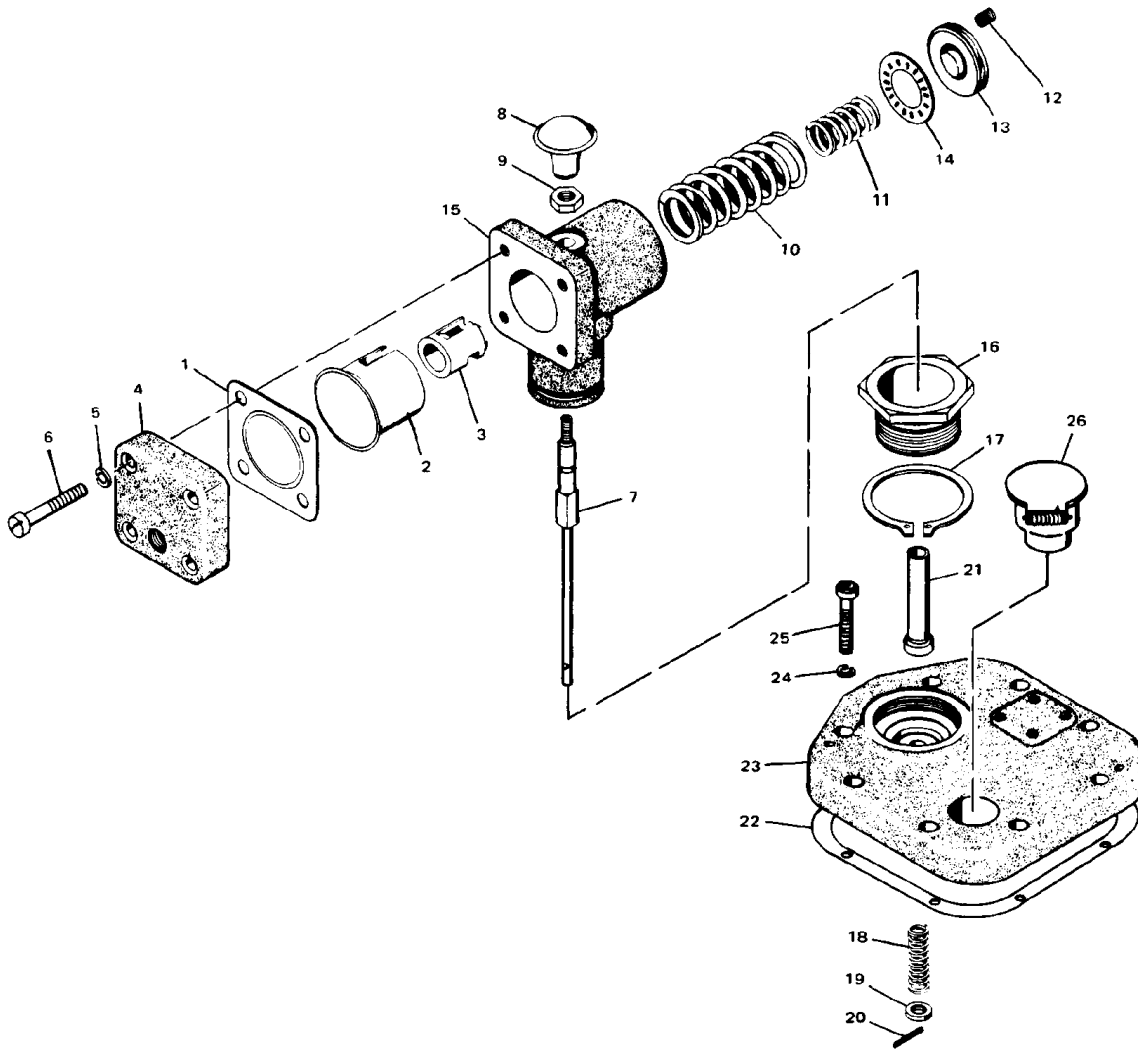

Figure 1. Exploded View of 12 to 26 psi Lube Oil Shutdown
It is necessary to override the shutdown before the engine is started (see Figure 1). Do this by manually lifting the reset knob (8). The latch piston (3) then engages the shoulder on the latch rod (7). When the latch rod is in this position, a groove encircling it is exposed above the body casting (15). A rise in the lubricating oil pressure above the reset value causes the shutdown piston (2) to move, increasing the compression of the spring (10) and carrying the latch piston with it. This movement transfers the latching action from the latch piston to the shutdown piston and causes the groove around the latch rod to disappear within the body casting again. Whenever this has occurred and the groove is no longer visible, the unit is ready to operate normally. (The first model of this shutdown did not have the groove, so the pressure gauge should be observed after starting the engine to verify the operation of the unit.)
The illustrated parts breakdown (Figures 1 through 3) illustrates and lists all the replaceable parts for the Low Lube Oil Pressure Shutdown. The numbers assigned are used as reference numbers and are not specific Woodward part numbers. Woodward will determine the exact part number for your particular governor.
### Parts List For Figure 1